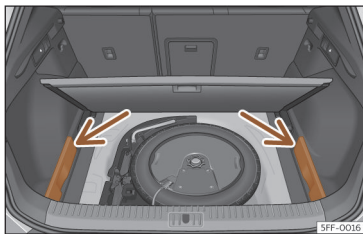

Fig. 185 In the boot: covers for storing the rear shelf.
- Remove the left and right covers >>> **Fig. 185**.